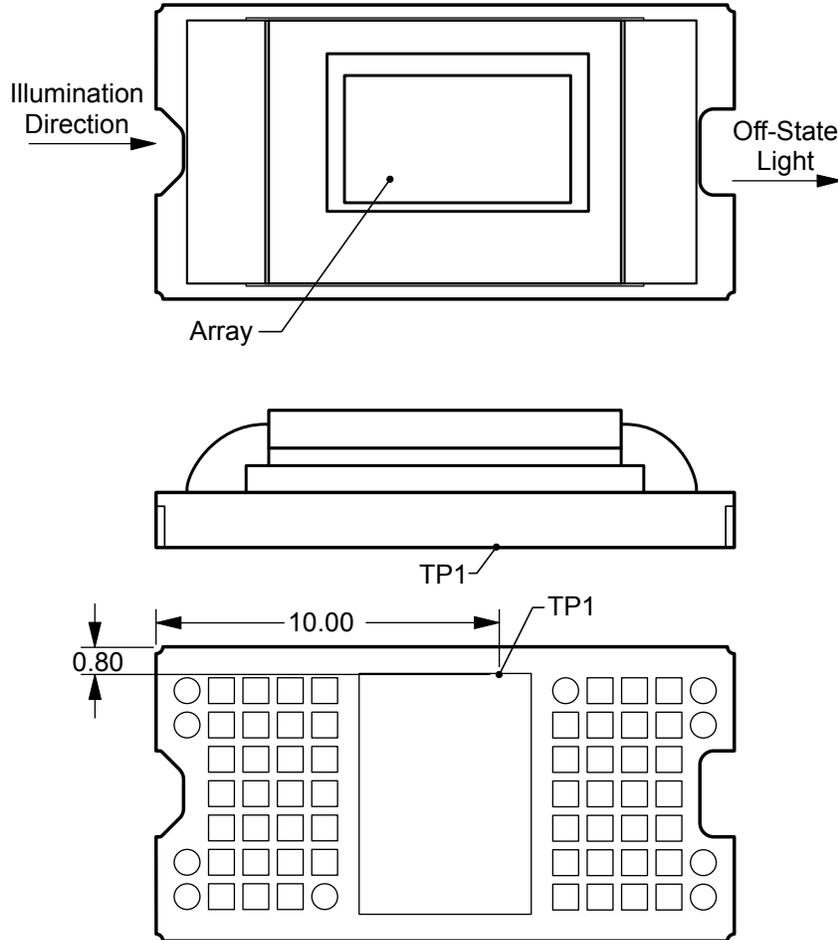

图 7-8. Thermocouple Location
Relationship between array temperature and the reference ceramic temperature (thermocouple location TP1 in 图 7-8) is provided by the following equations.
- $T_{CERAMIC}$ = measured ceramic temperature (TP1 location in 图 7-8) ($^{\circ}C$)